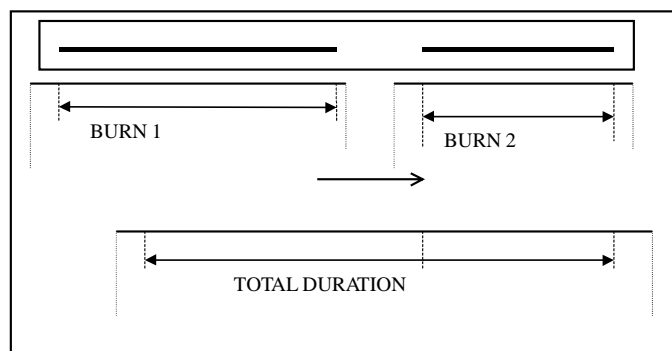

Figure 7: Total interrupted burns for one day
- Starting from a convenient hour line, the total distance will give the duration of sunshine for one day. See Figure 7.